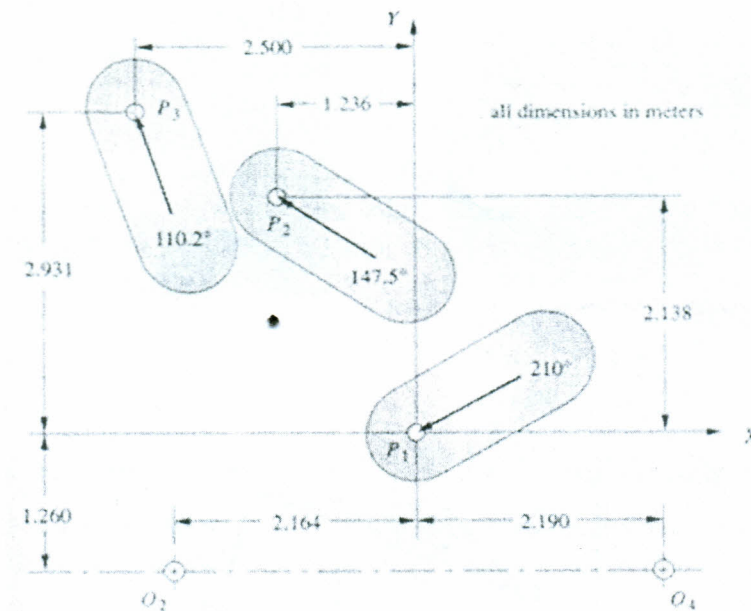

Figure 7
- Q.6B Design a linkage to carry the body in in Figure 7 through the two positions P_1 and P_2 at the angles shown in the figure. Use analytical synthesis without regard for the fixed pivots shown. Hint. Try the free choice values $z = 1.075$, $\phi = 204.4^\circ$, $\beta = -27^\circ$; $s = 1.24$, $\psi = 74^\circ$, $\gamma_2 = -40^\circ$ 15